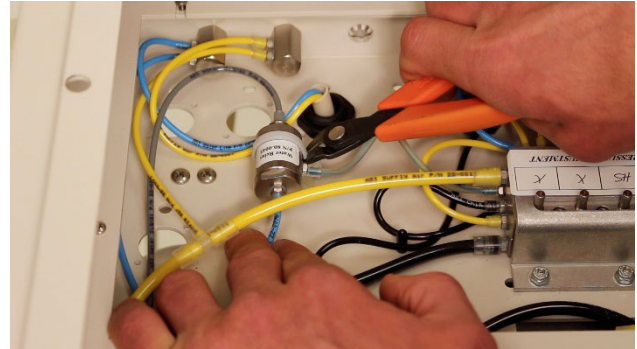

Fig. 3
- 4 Cut existing zip tie. (Fig. 3)